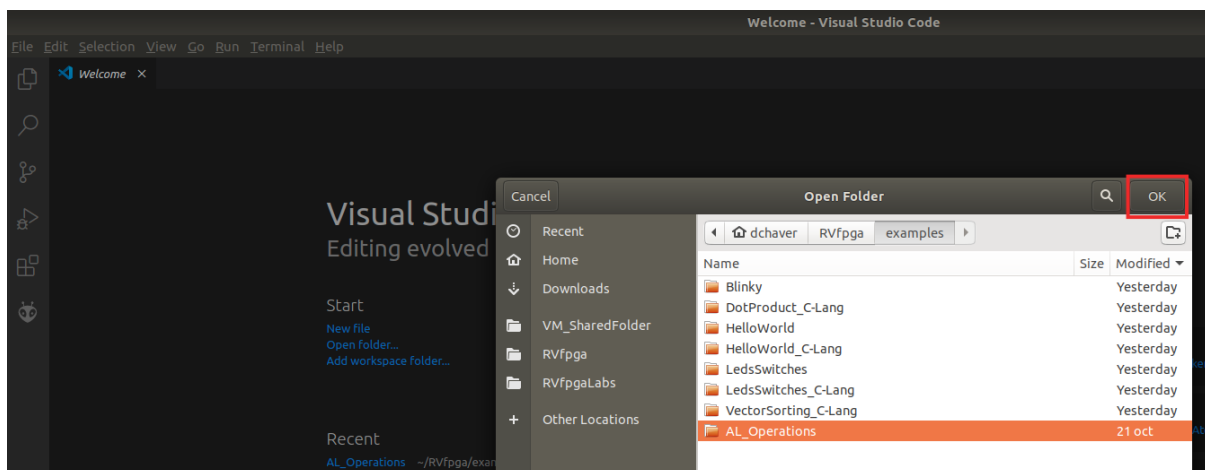

Figure 99. Open AL_Operations folder
5. Select the PlatformIO project that you are going to use. In this section, as an example, we use *AL_Operations*, the first example mentioned in Table 9, that you will debug in the next section, but you could follow the same steps with any other example. Thus, select directory *AL_Operations* (do not open it, but just select it – see Figure 99) and click OK at the top of the window. PlatformIO will now open the example.